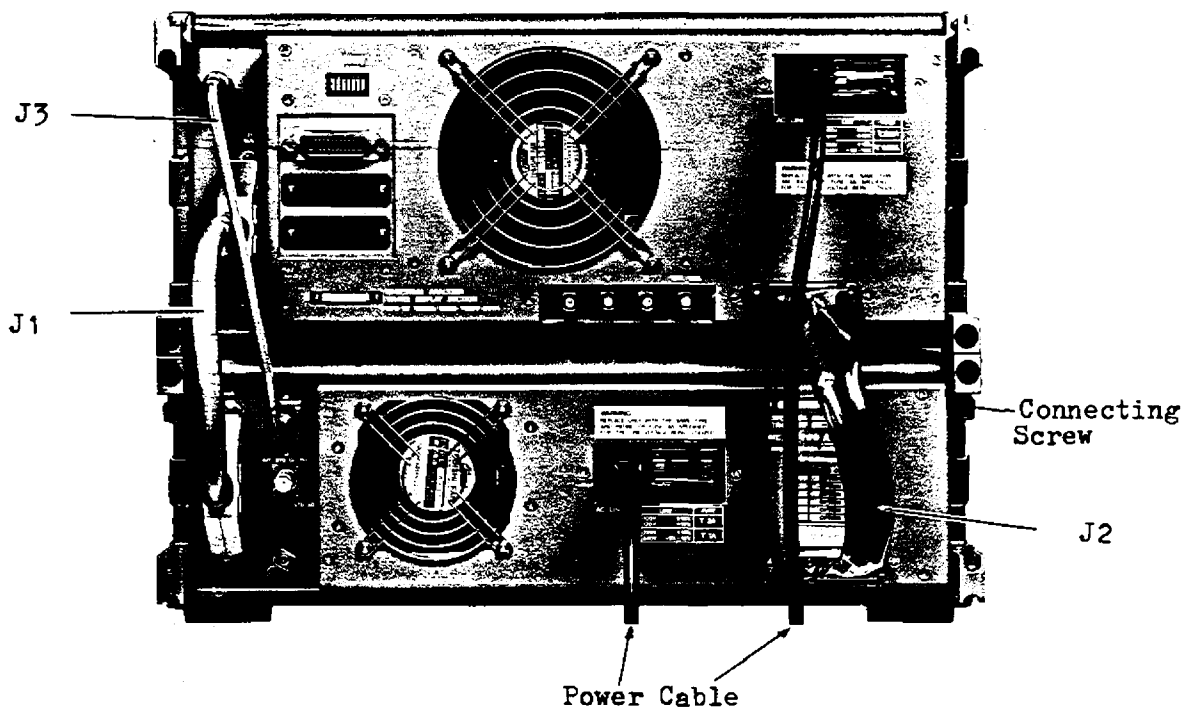

Fig. 2-2 Power and signal connections on the rear panels
- ① Make sure that the POWER switch on the RF section is in the STANDBY (out) position.
- ② An AC LINE connector is provided on the rear panel of each section. Plug the female side of the supplied power cables into each of these AC LINE connectors. (See Figure 2-2.)
(2) Notes On Use of Power Cable